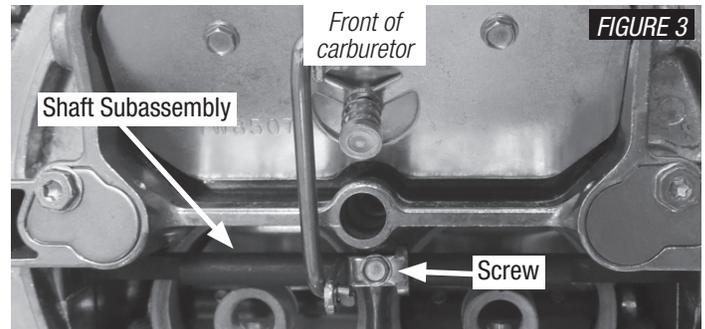

FIGURE 3
4. Remove the screw securing the choke linkage to the shaft subassembly (Figure 3).
8. Carefully secure the choke linkage to the shaft subassembly with the supplied hex screw (Figure 3). **WARNING:** This procedure can only be performed once as the shaft threads are not reusable. Be very careful not to strip out the screw by overtightening. Stop turning when the screw head contacts the bracket.
15. Connect the red wire to the positive (+) terminal on choke housing (Figure 3). Connect the other end of the red wire to an ignition key activated +12 volt source. Ensure this source maintains +12 volts with the engine running. **DO NOT ATTACH TO COIL.**